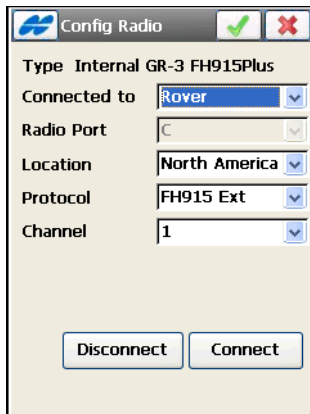

Figure 8-34. Config Internal GR3 FH915Plus
**For FH 915Plus Modems: the Internal GR-3 FH915Plus, the Internal Hiper Lite+ FH915Plus and RE-S1 radios** the *Config Radio* screen (Figure 8-34) contains the following parameters.